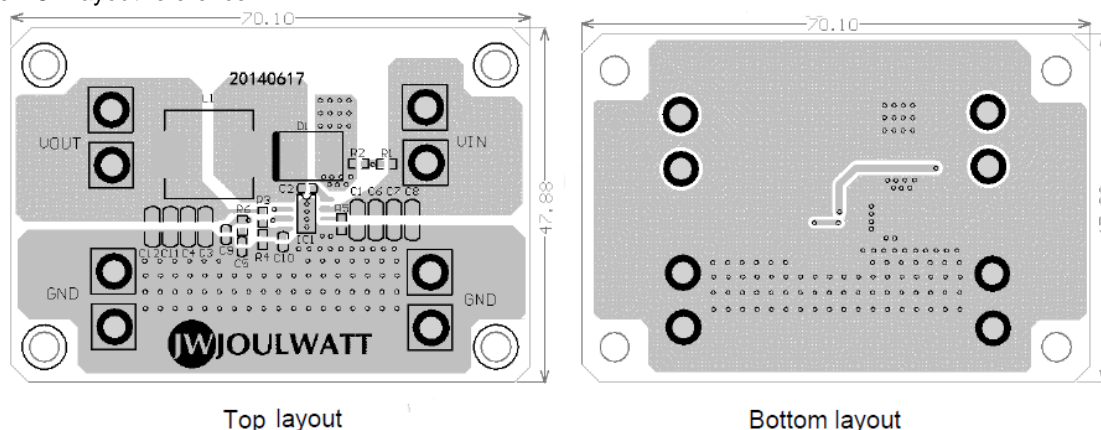

Figure 6: PCB Layout Reference
5. Connect IN, SW, and especially GND respectively to a large copper area to cool the chip to improve thermal performance and long-term reliability. The 2ozs copper thickness is suggested for better thermal performance in real application. Figure 6 is the PCB layout reference.